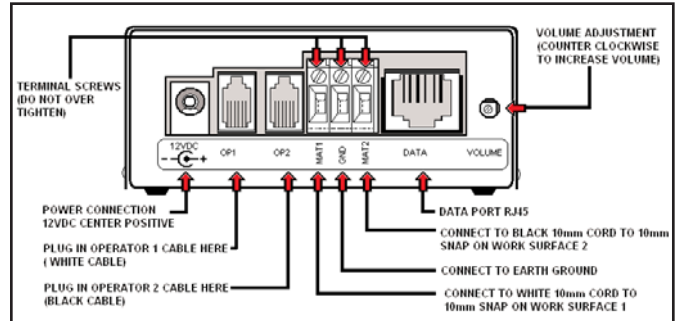

Figure 2. 62030 Rear View
- Attach the tinned wire ends of the mat wires to the appropriate screw terminal connection on the rear of the unit. (See Figure 2). The white wire is for operator #1 and the black wire is for operator #2.
H. Route the operator remote wires to the monitoring unit and insert the modular plugs into the appropriate jacks on the rear of the unit. (See Figure 2)